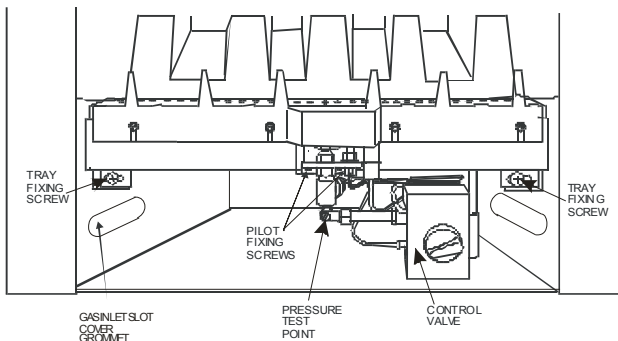
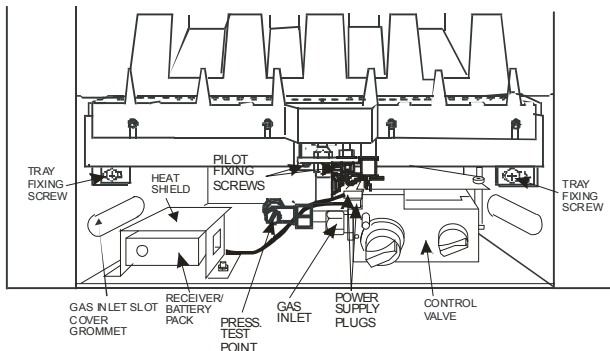

Figure 45 - Manual BM Control
Figure 46 - Remote, Optimum, Trim Switch & Total Control
2. Remove the pressure test point screw located as shown in **Figure 45** or **Figure 46** on **Page 29** and connect a pressure gauge.